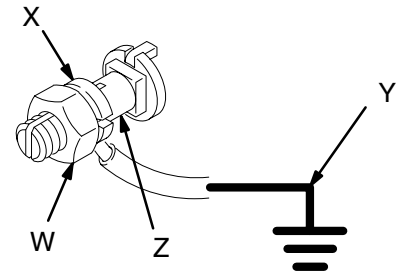

Fig. 1
- *Pump:* Use a ground wire and clamp as shown in Fig. 1.
To ground the pump, loosen the grounding lug locknut (W) and washer (X). Insert one end of a 12-ga (1.5 mm²) minimum ground wire (Y) into the slot in lug (Z) and tighten the locknut securely. Connect the other end of the ground wire to a true earth ground. See Fig 1. *To order a ground wire and clamp, order Part No. 222011.*
2 Install ground wire 222011 (required) here. See Fig. 1 on page 9.